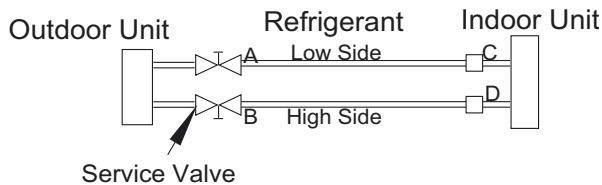

Fig. 13 – Service Valve
1. Completely tighten the flare nuts (A, B, C, D, E). Fully open all circuits service valves. Connect the manifold gage charge hose to the charge port of the low side Master service valve to evacuate all circuits at the same time (see Fig. 13).